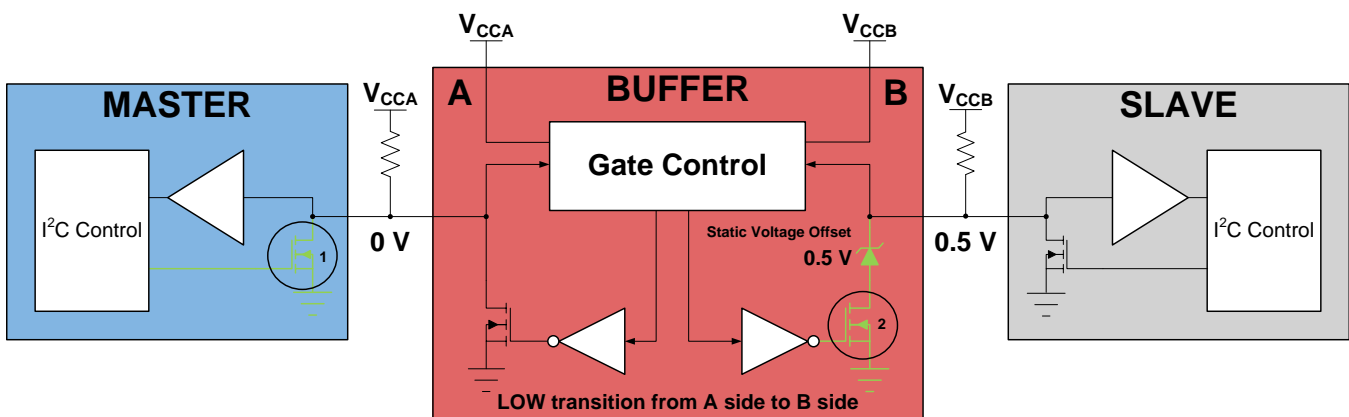

Figure 13. An Example of a Logic Level Low Being Propagated from the A Side to the B Side of the Buffer
Consider when the master pulls low, see Figure 13. The master's pulldown FET is turned on (1) and is pulled low on the A side of the device. The buffer then proceeds to turn on the B side FET (2), which places the static voltage offset of 0.5 V onto the B side bus. The SVO is lower than the V_{IL} of the slave thus it is interpreted as a low.